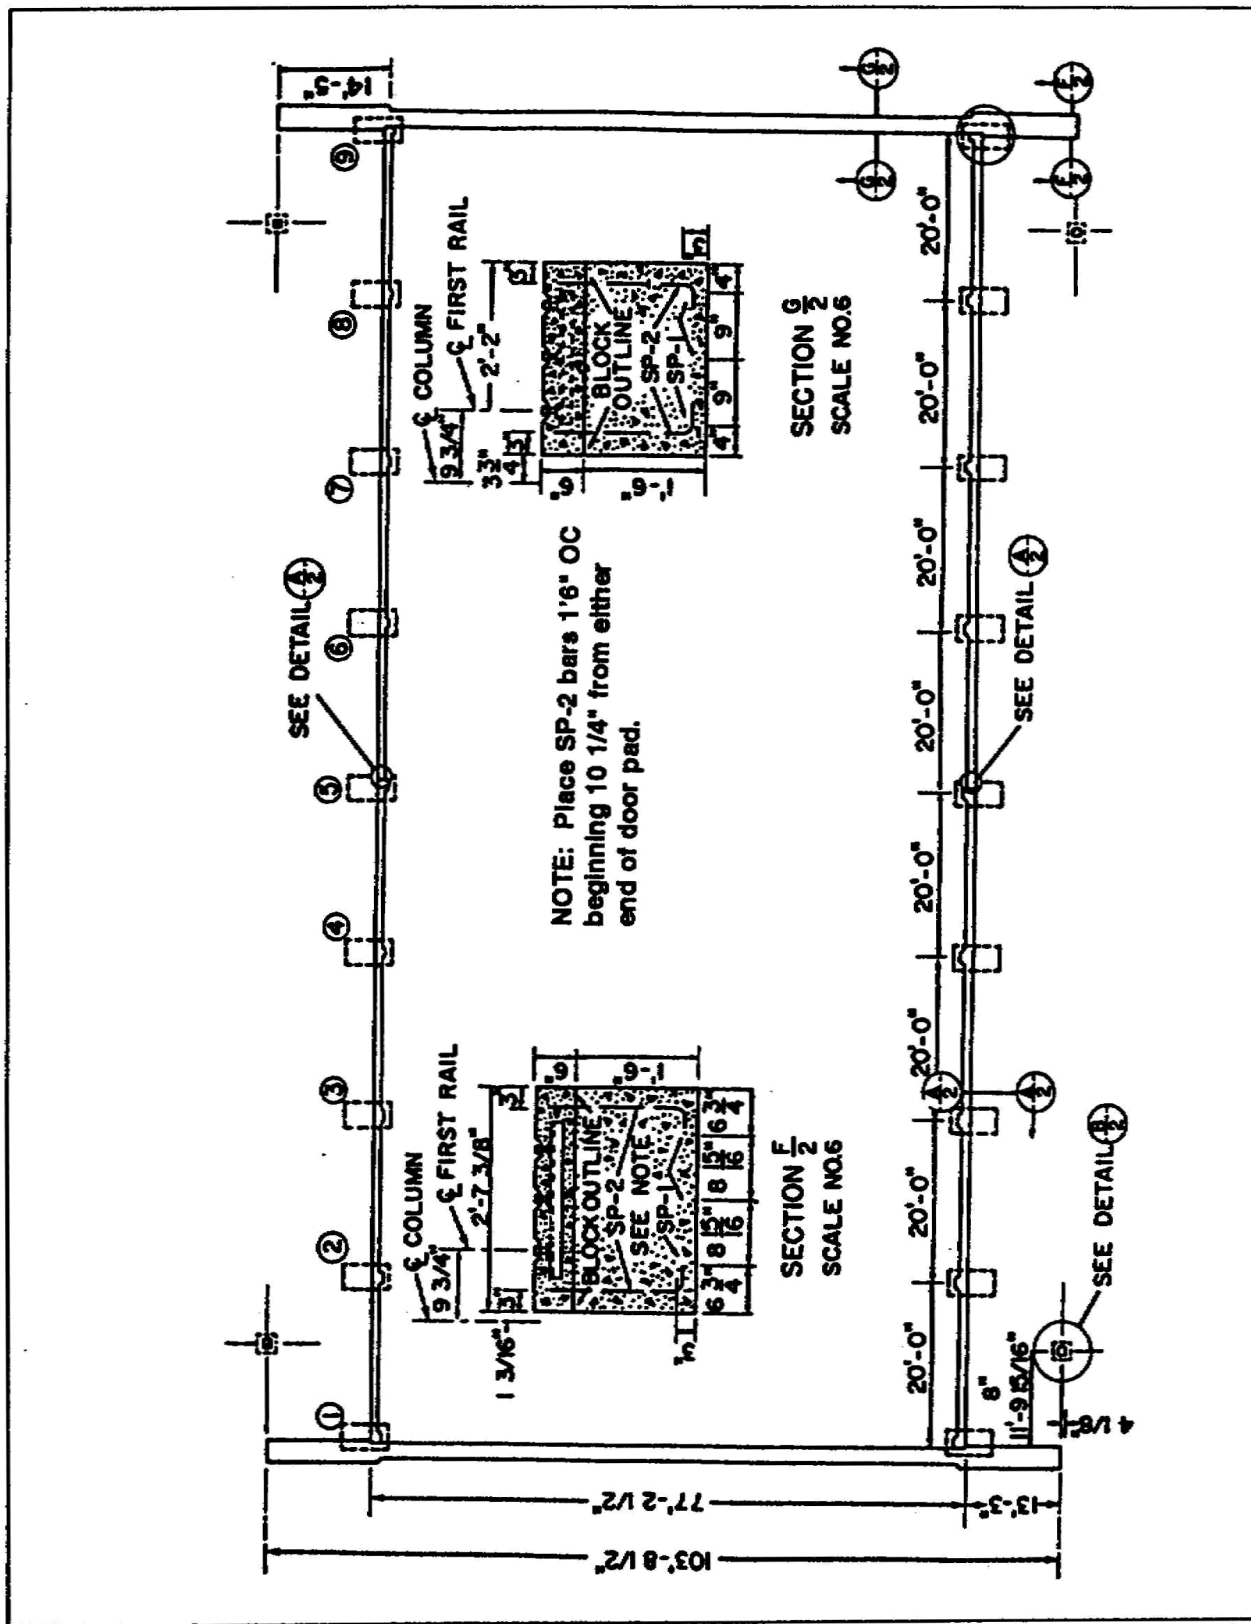

Figure 1-19. Foundation plan
h. Foundation Plan. Figure 1-19, page 22 shows a foundation plan. The foundation is the starting point of the construction. Detail drawings and specifications for a plan are usually attached on a separate sheet.